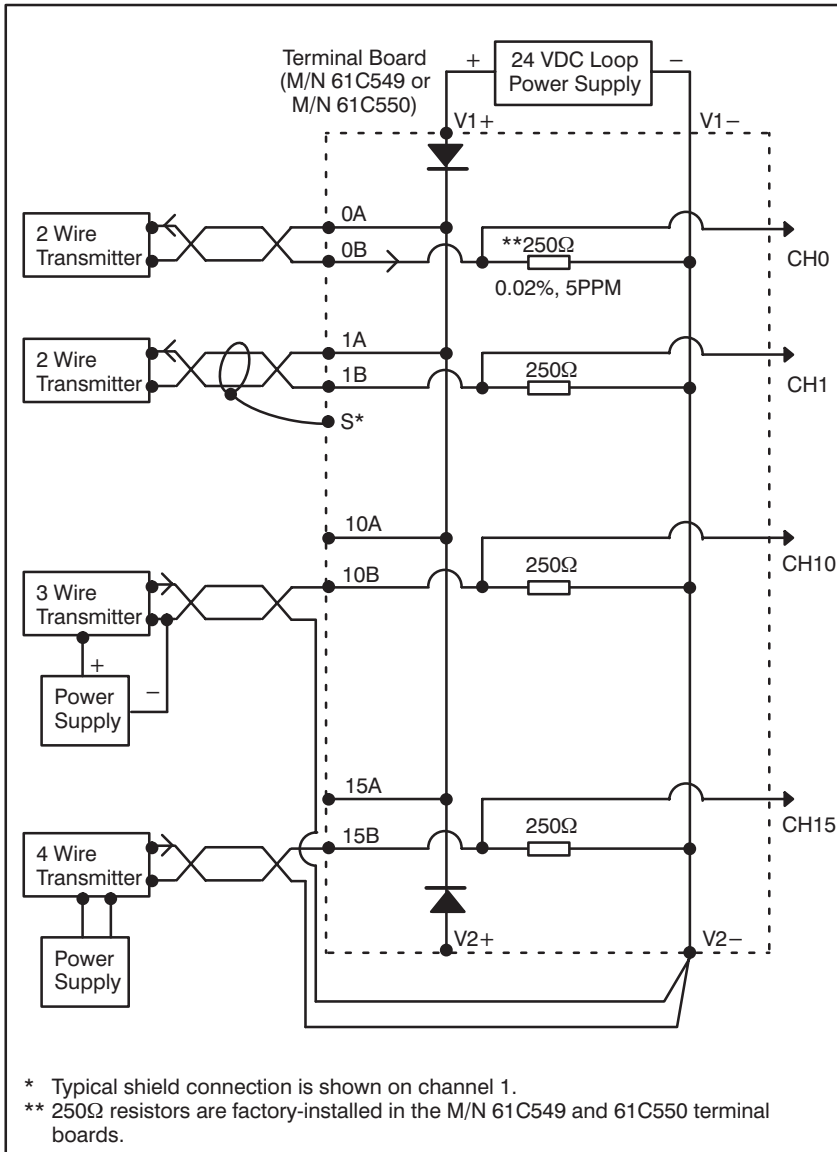

Figure 3.3 - Transmitter Wiring Connections
- Step 3. Fasten the wires from the transmitters to the screw-type connectors on the terminal board assemblies. Use shielded twisted-pair cable, such as Belden 9501 or equivalent. Maximum field wiring length is dependent upon the transmitters. Typical transmitter wiring connections are shown in figure 3.3. Refer to Appendix C for a listing of the terminal board connections. See Appendix G for a listing of module faceplate connections.